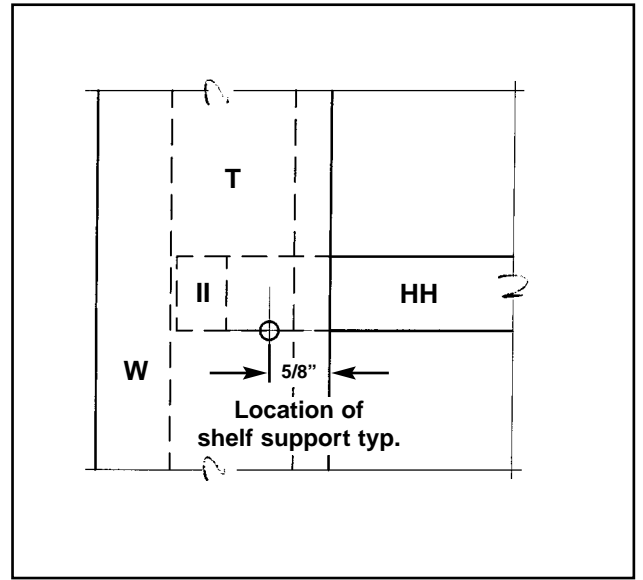

Figure 2
3. Locate and drill 1/4" holes for shelf supports. Refer to Elevations and Figure 2.